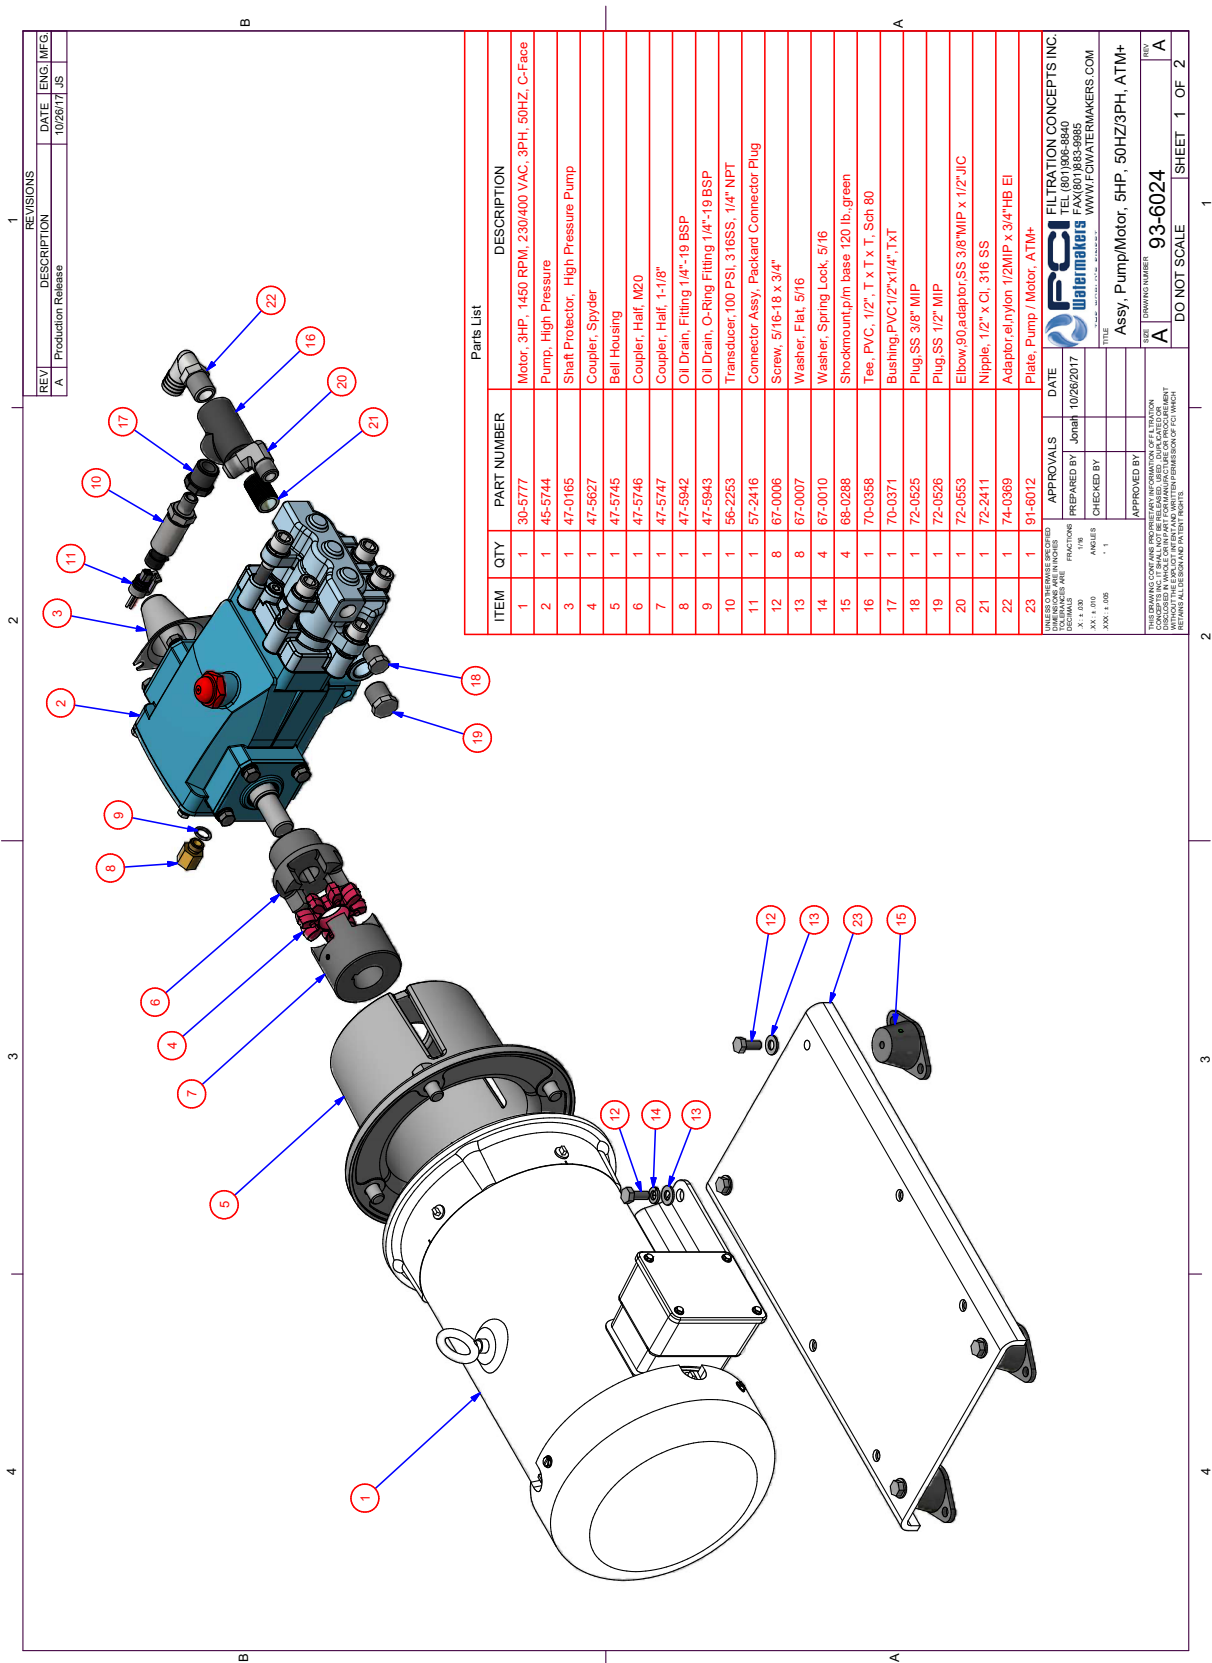

Figure 30: High Pressure Pump Assembly Drawing (3-Phase 50 Hz)
- "Figure 30: High Pressure Pump Assembly Drawing (3-Phase 50 Hz)" on page 124